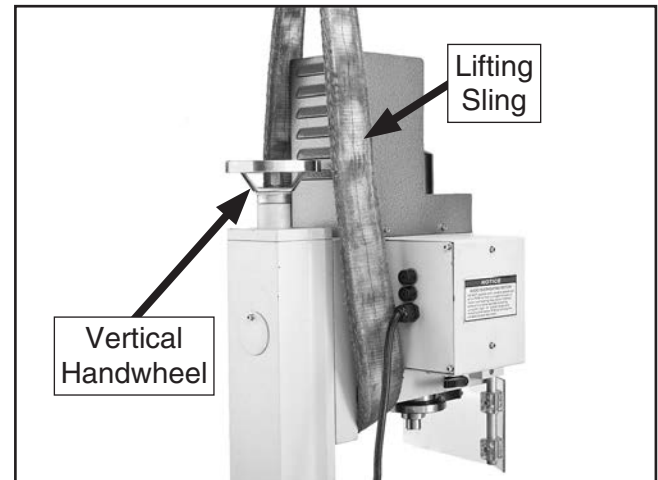

Figure 10. Headstock positioned for lifting.
2. Use vertical handwheel to raise headstock as far as possible (see **Figure 10**). Lock headstock in place to avoid sudden shifts during lifting.
3. Hang sling from forklift fork and place it under headstock, as shown in **Figure 10**. **DO NOT** place sling over any controls or against any components that may be damaged from the force required for lifting.